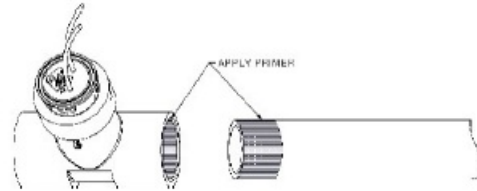

Figure 5
2. Clean and apply primer to the pipe ends and Tee sockets (see Figure 5)